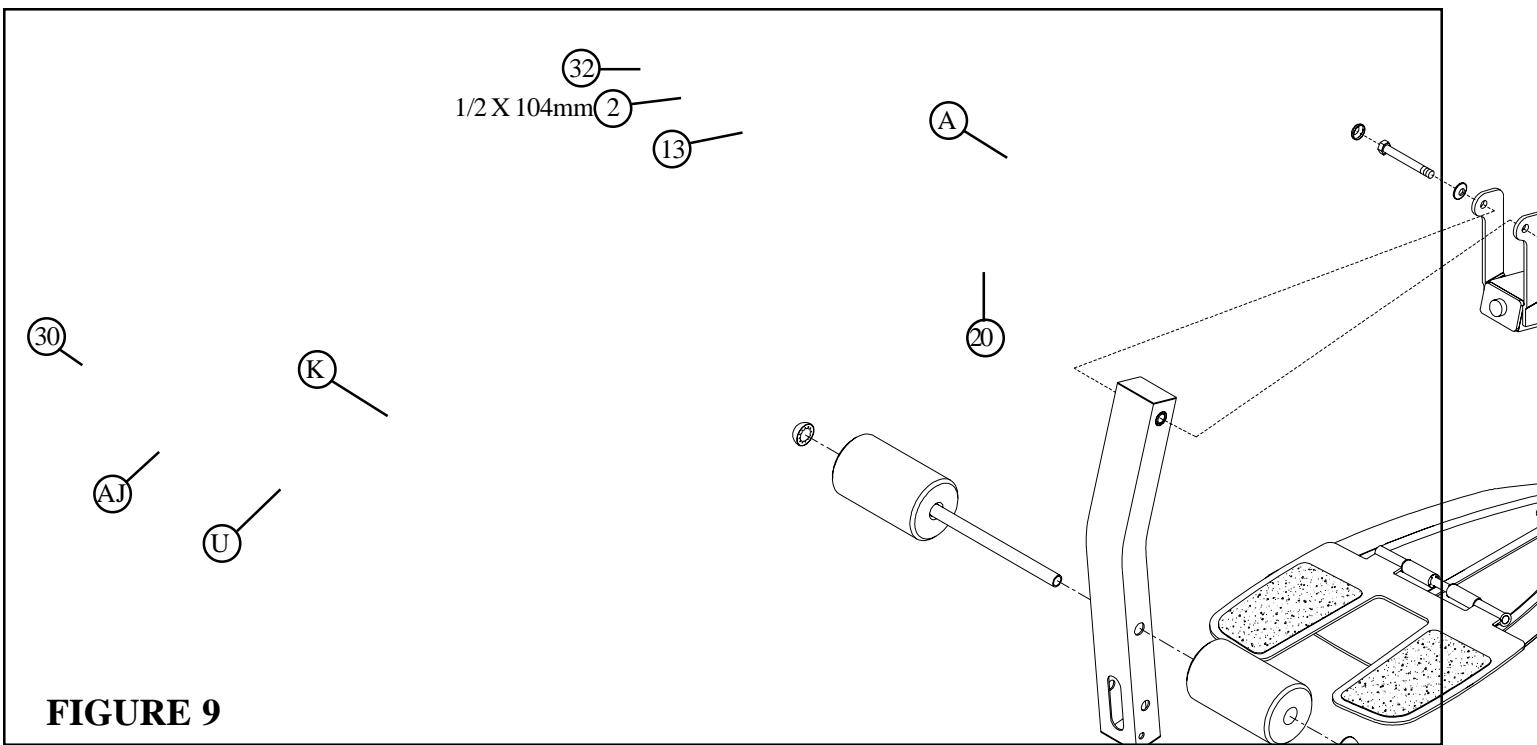

FIGURE 9
- Assemble the LEG PEDESTAL (K) to the FRAME (A) using two RH CAPS (32), one 1/2 X 104mm BOLT (2), two 1/2" SHIM WASHERS (13), and one 1/2" LOCK NUT (20). (Note: Tighten this connection enough to remove excess play yet allow the LEG PEDESTAL to rotate freely.)
- Assemble two ROLLER PADS (AJ) to the LEG PEDESTAL (K) using one 3/4 X 17-1/2" TUBE (U) and two 3/4" STARLOCK COLLARS (30) as shown in FIGURE 9.